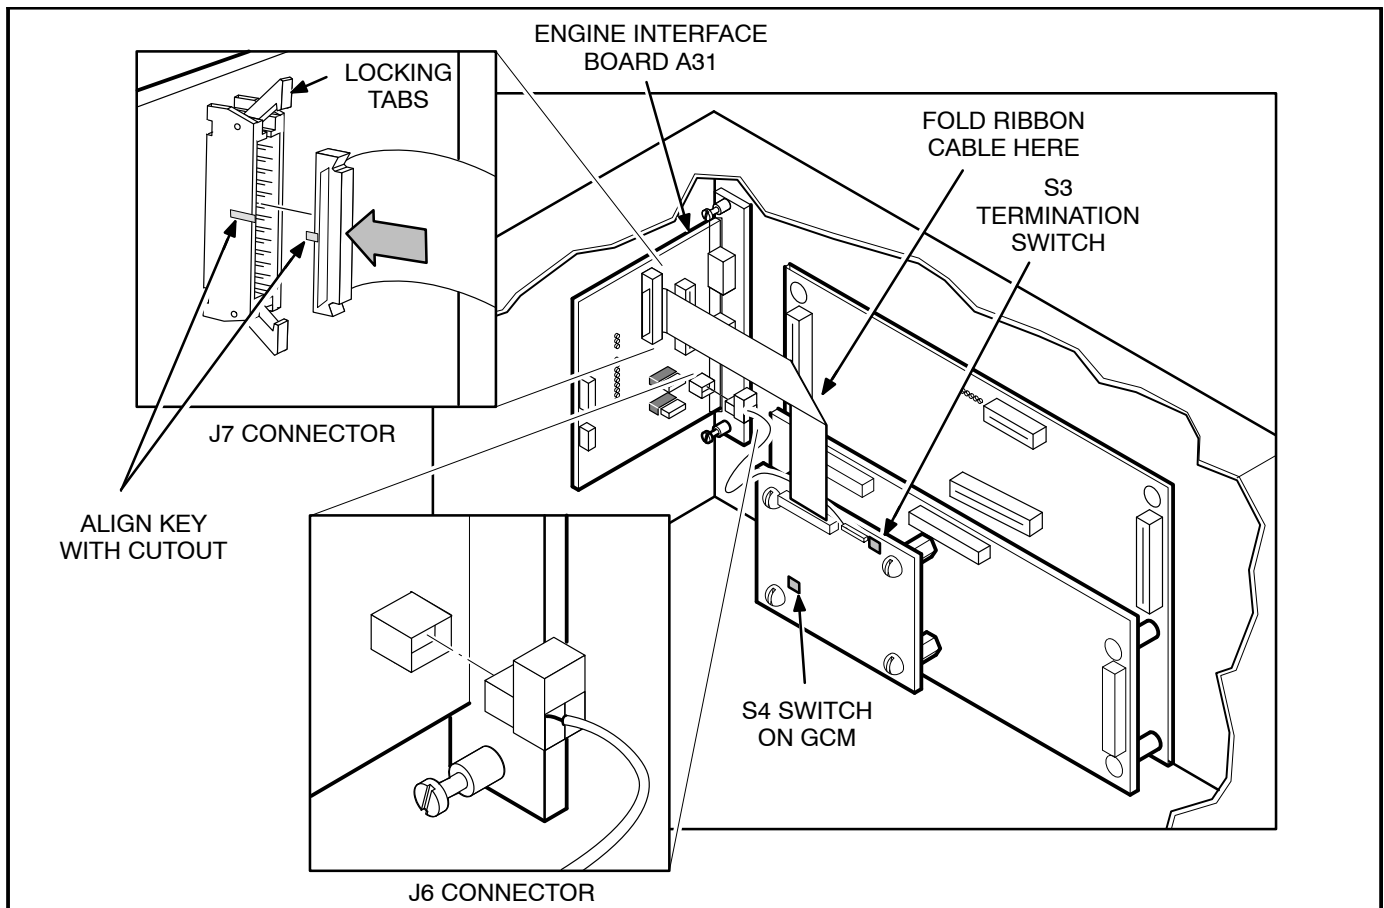

FIGURE 8-6. INSTALLING J6 AND J7 CONNECTORS
9. Spread locking tabs apart on the J7 connector. Fold the ribbon cable, as shown in Figure 8-6, align key on plug with socket cutout. Insert the J7 harness plug into the J7 connector on the engine interface board. Press in the harness connector, at the location indicated by the arrow, until the locking tabs lock into place.
10. Set the S4 switch on the GCM to **24V** for a 24V battery system or **12V** for a 12V battery system (Figure 8-6).
Refer to Table 8-2 and Figures 8-6 and 8-9.